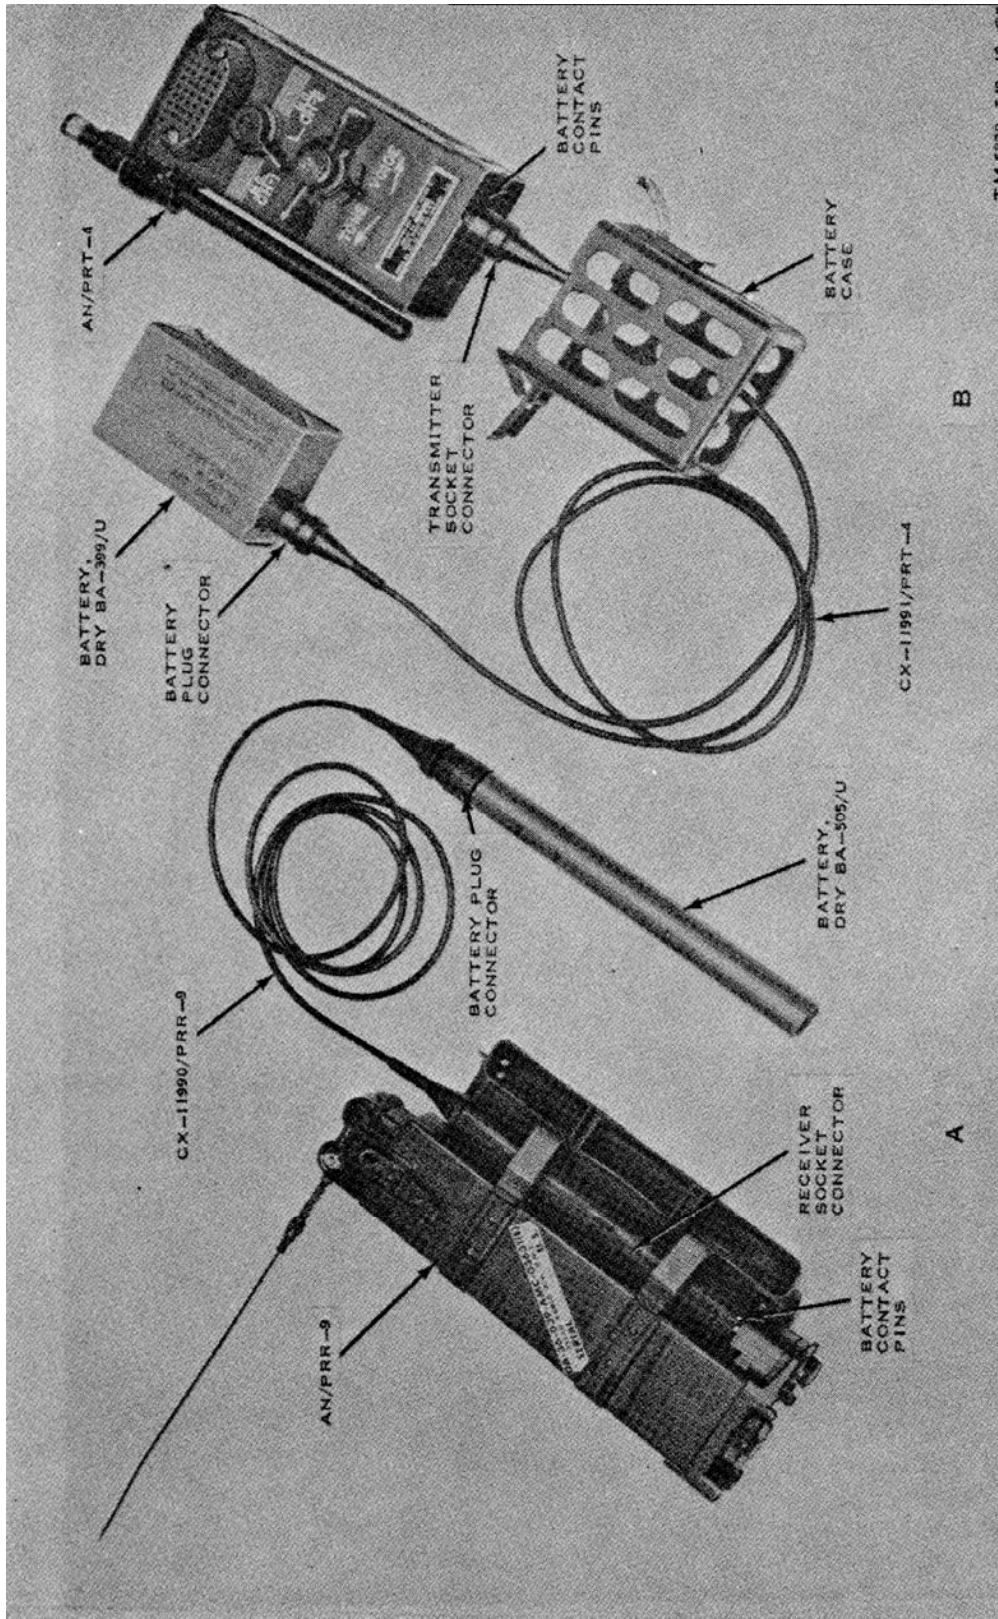

Figure 2-8. Battery extender cables installed.
a. Receiver Battery (A, fig. 2-8).
(1) Mate the receiver socket connector of the CX-11990/PRR-9 receiver battery extender cable with the battery contact pins and firmly push into place.
(2) Mate the battery plug connector with the battery socket and firmly push the two together.
b. Transmitter Battery (B, fig. 2-8).